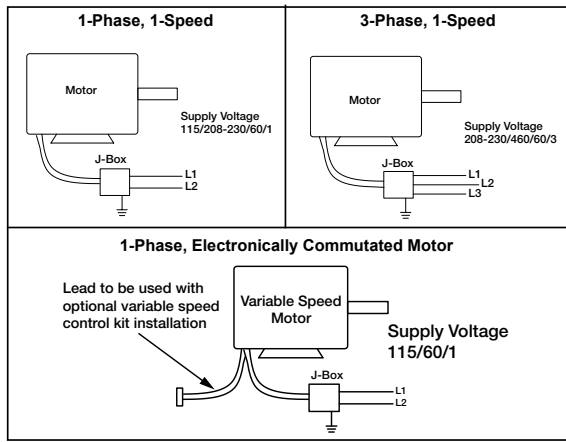

Figure 10
2. Wire motor for desired voltage per wiring diagram on motor, refer to Figure 10 for connection wiring diagram.